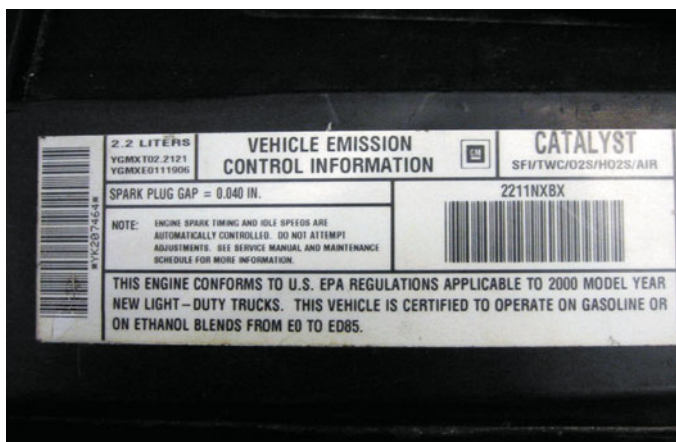

FIGURE 6-7 A vehicle emission control information (VECI) sticker on a flexible fuel vehicle indicating that it can use ethanol from 0 to 85%.
- Vehicle emission control information (VECI) label under the hood (● **SEE FIGURE 6-7**)